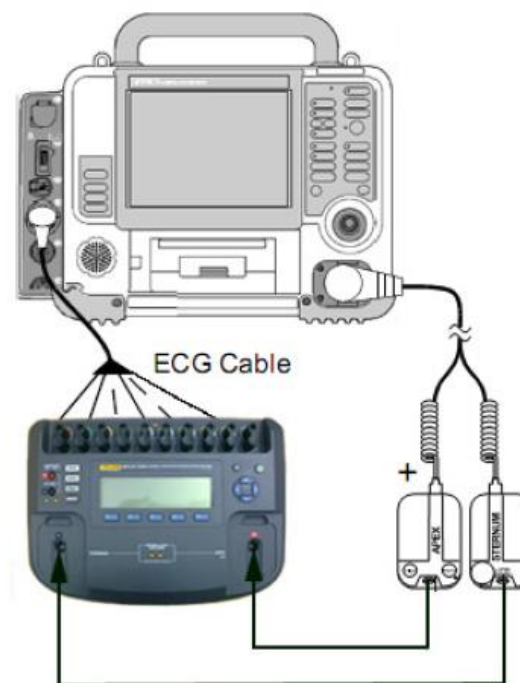

Figure 1.49—Standard paddles defibrillator sync test setup
1. Establish the setup as shown in Figure 1.49.